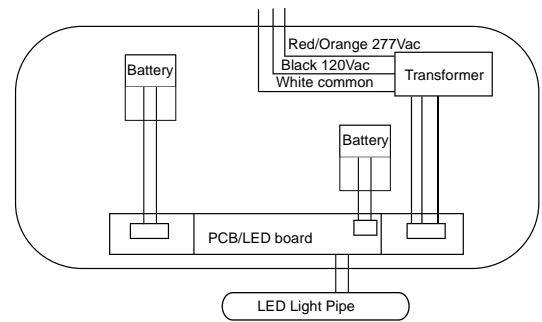
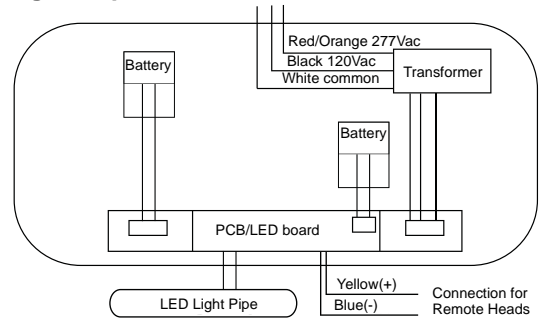

Figure 4a
Figure 4b
- c. The system can accept input voltages of 120 VAC or 277 VAC. Therefore, connect the black (120 VAC) or red/orange (277 VAC) and white (common) leads to the building utility (fig.4a). For units with remote capacity see figure 4b.
- e. The system can accept input voltages of 120 VAC or 277 VAC. Therefore, connect the black (120 VAC) or red/orange (277 VAC) and white (common) leads to the building utility (fig.4a). For units with remote capacity see figure 4b.